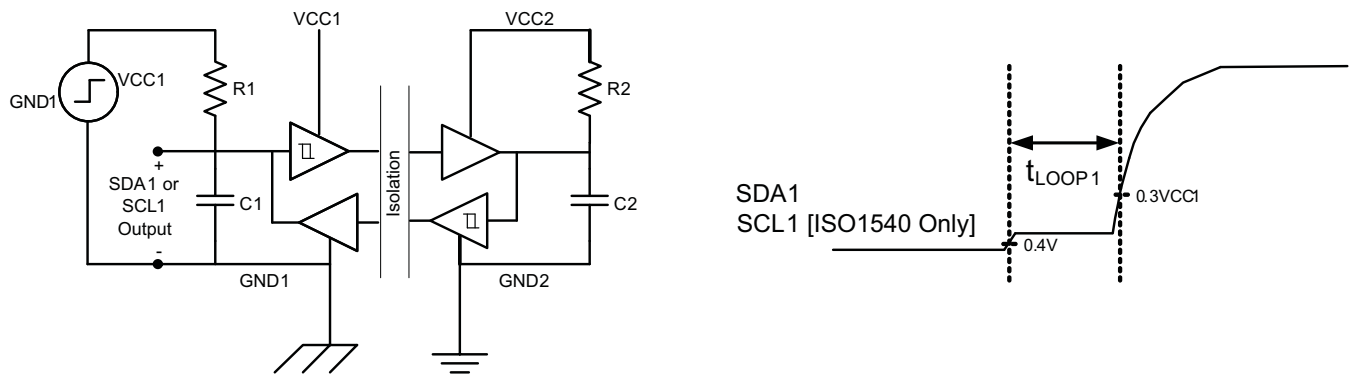

Figure 2.  $t_{Loop1}$  Setup and Timing Diagram
| t LOOP1 (1)  | Round-trip propagation delay on Side 1                            |  | See <a href="#">Figure 2</a> ;R 1 = 953 Ω, C 1 = 40 pFR 2 = 95.3 Ω, C 2 = 400 pF | 0.4 V to 0.3 x VCC1 |     | 100  | 165 | ns |
| t LOOP1 (1)  | Round-trip propagation delay on Side 1                            |  | See <a href="#">Figure 2</a> ;R 1 = 1430 Ω, C 1 = 40 pFR 2 = 143 Ω, C 2 = 400 pF | 0.4 V to 0.3 x VCC1 |     | 110  | 180 | ns |